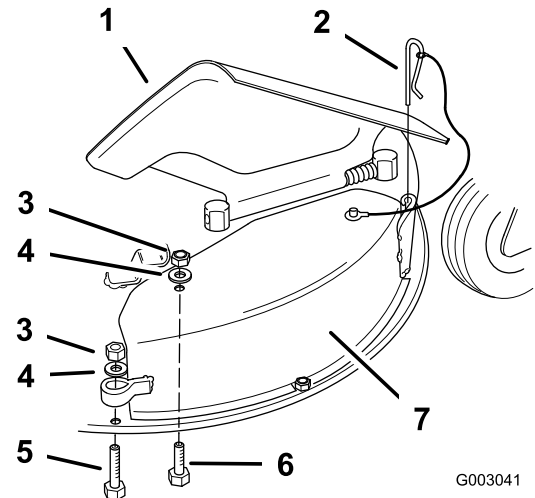

Figure 54
- Raise the grass deflector and remove the chute pin on the front of the discharge cover (Figure 54).
- Remove the locknut, flat washer, and bolt (5/16 x 1-1/4 inches) holding the top of the discharge cover to the top of the mower (Figure 54).
- Remove the locknut, flat washer, and bolt (5/16 x 2-1/4 inches) holding the loop on the rear of the discharge cover to the deck ring (Figure 54).
- Remove the discharge cover from the mower (Figure 54).